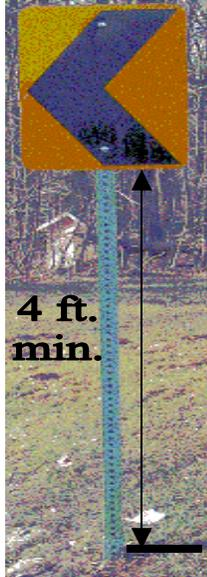

Figure 26
1. Single Sign Mount - one (1) sign mounted on center (top and bottom holes) to topmost of a 7 foot – 2 inch square tube breakaway post with anchor base. Sign and post to face oncoming traffic. (see figure 26)
2. Double Sign Mount – two (2) signs mounted on the leading edge at a 90 degree angle, edge-to-edge, point-to-point configuration. The top of both signs shall be to the topmost hole of a 7' – 2" square tube breakaway post with anchor base. Both signs in unison to face 45 degree angle (along with post) to square edge of roadway. One sign to face each direction of oncoming traffic. Double mount sign configurations shall not be installed back-to-back or parallel to each other.